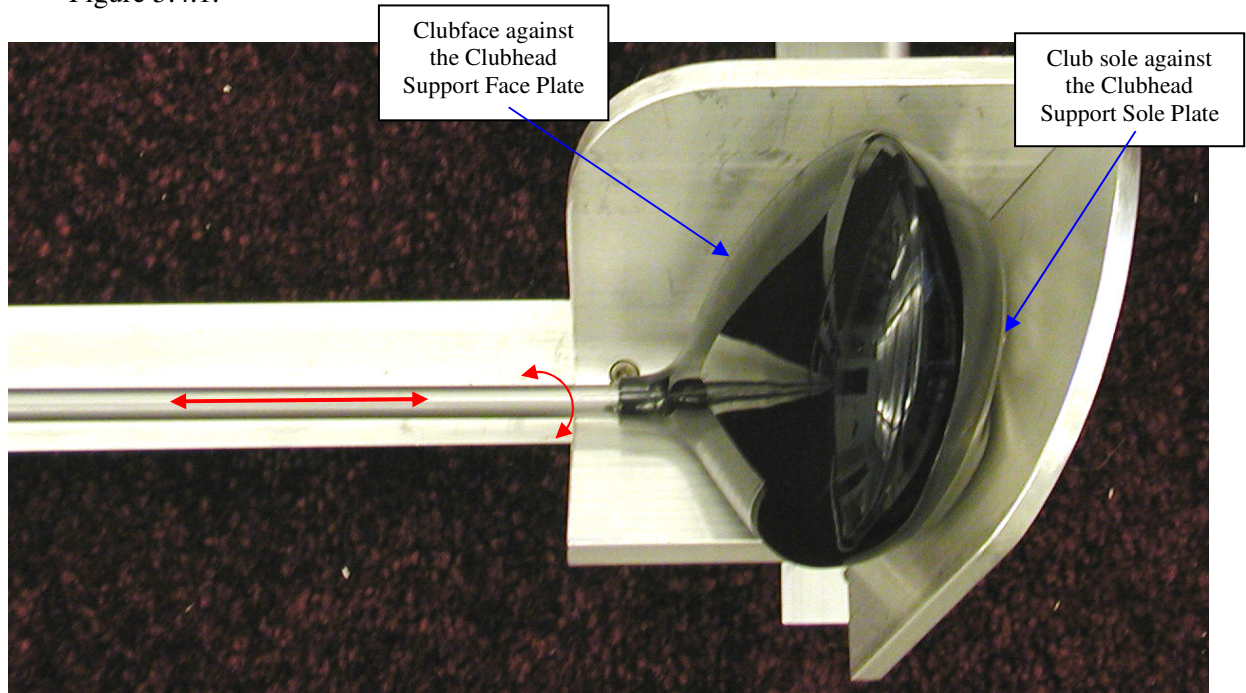

Figure 5.4.1 – Clubhead Resting Naturally in the Clubhead Support
5.4.1 Once the club is in place gently rock it back and forth and side to side to make sure that it is not being constrained in any way and that the clubhead is resting naturally in the measurement apparatus. When the club is resting naturally, the sole of the club should be touching the clubhead support sole plate and the face or leading edge of the clubhead should be touching the faceplate, Figure 5.4.1.